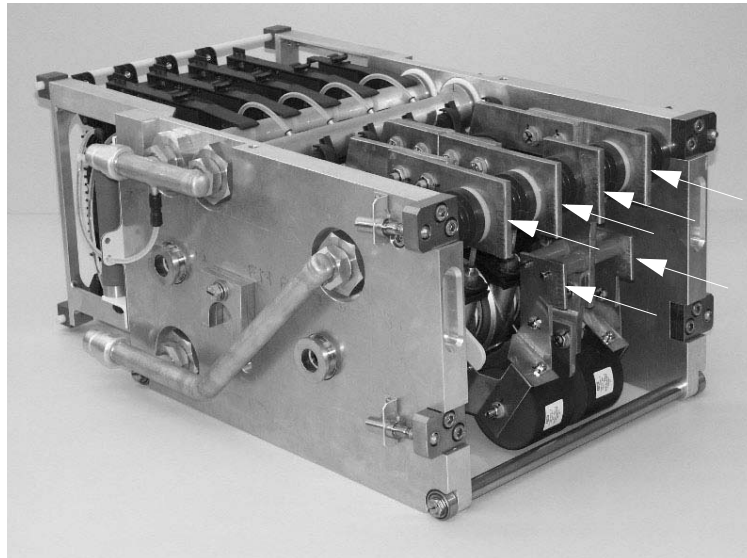

Figure 4-13 Greasing Busbar Stubs
- 2 Grease the ends of the busbar stubs using grease of type RHODORSIL or SILICONPASTE 4. See arrows in *Figure 4-13*.